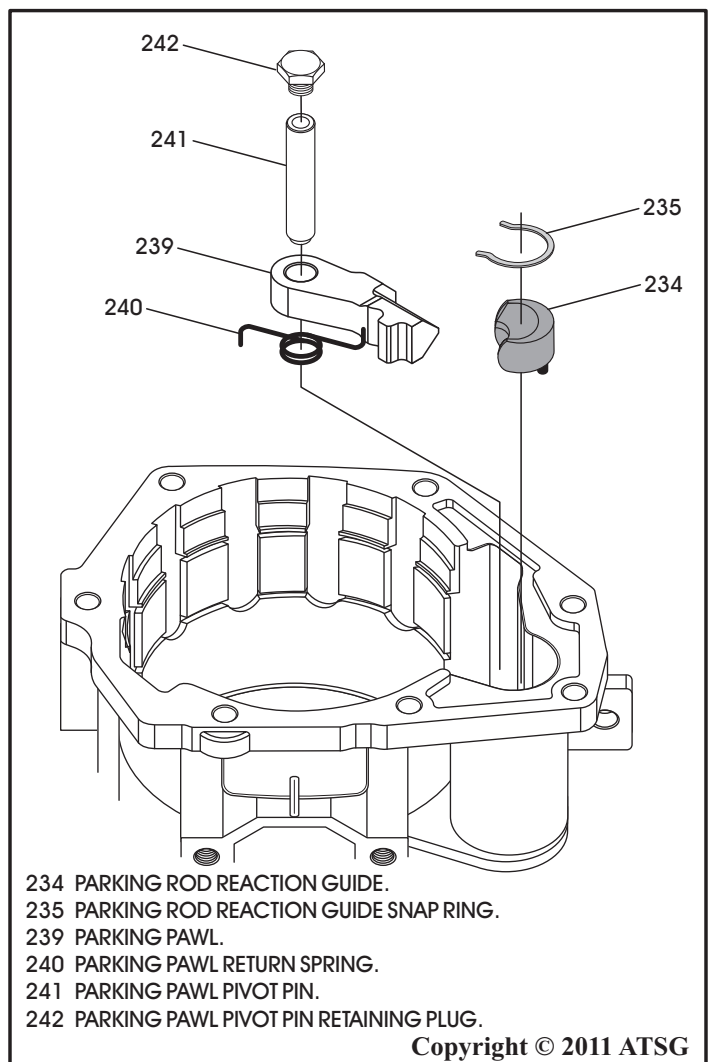

Figure 190
40. Install park pawl, spring, pivot pin and retaining plug, as shown in Figure 190.
42. Install the park rod reaction guide and retaining snap ring, as shown in Figure 190.